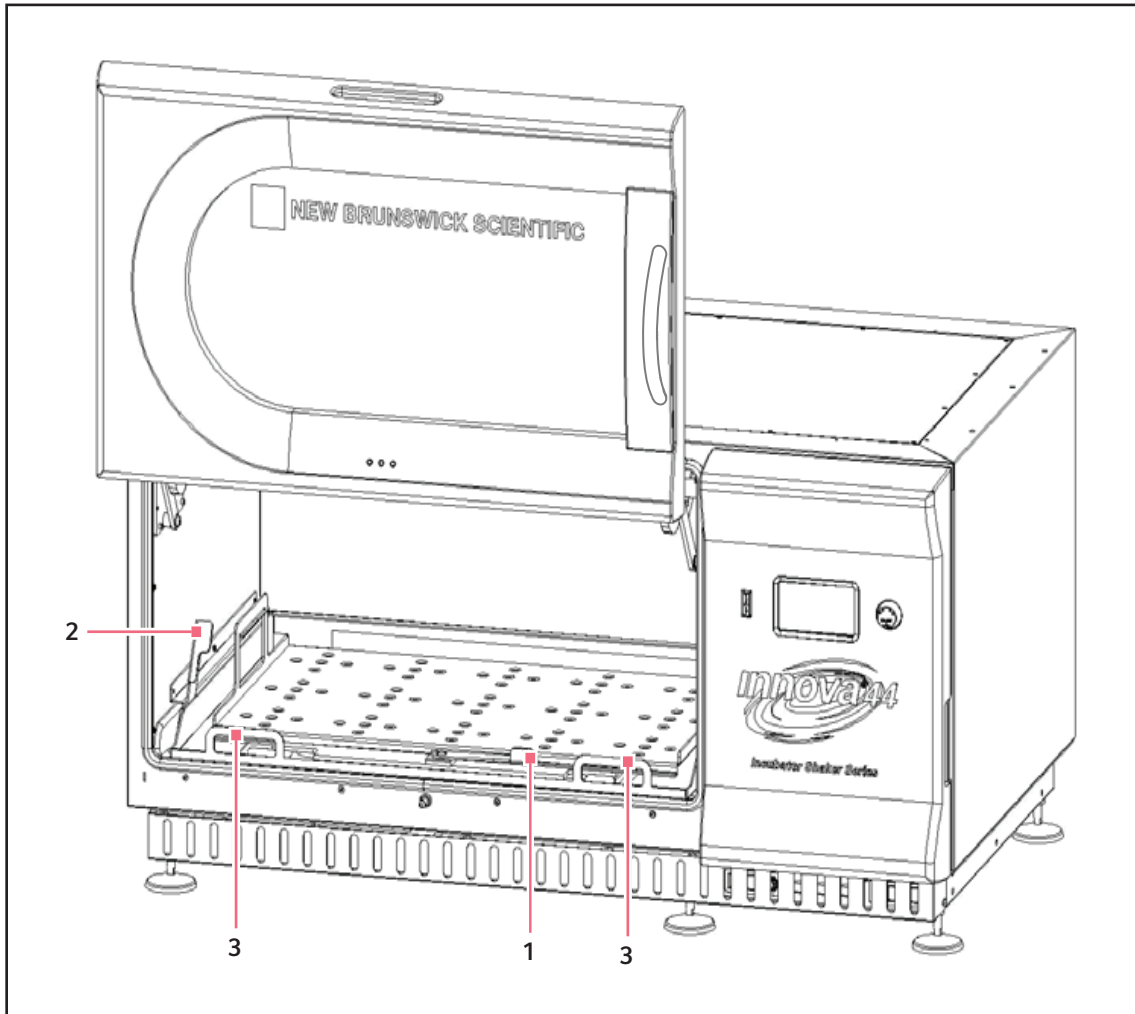

Fig. 9-16: Disengaging Slide-Out Platform
2. Rotate cam lever located on the sub-platform (see Fig. 9-16 on p. 65) 180 ° clockwise. It should be pointing to the left.
3. Pull both side levers (see Fig. 9-16 on p. 65) down. This will disengage the platform from the sub-platform.
4. Pull both handles on the slide-out mechanism (see Fig. 9-16 on p. 65) toward you. This will move the platform to an easily accessible position.